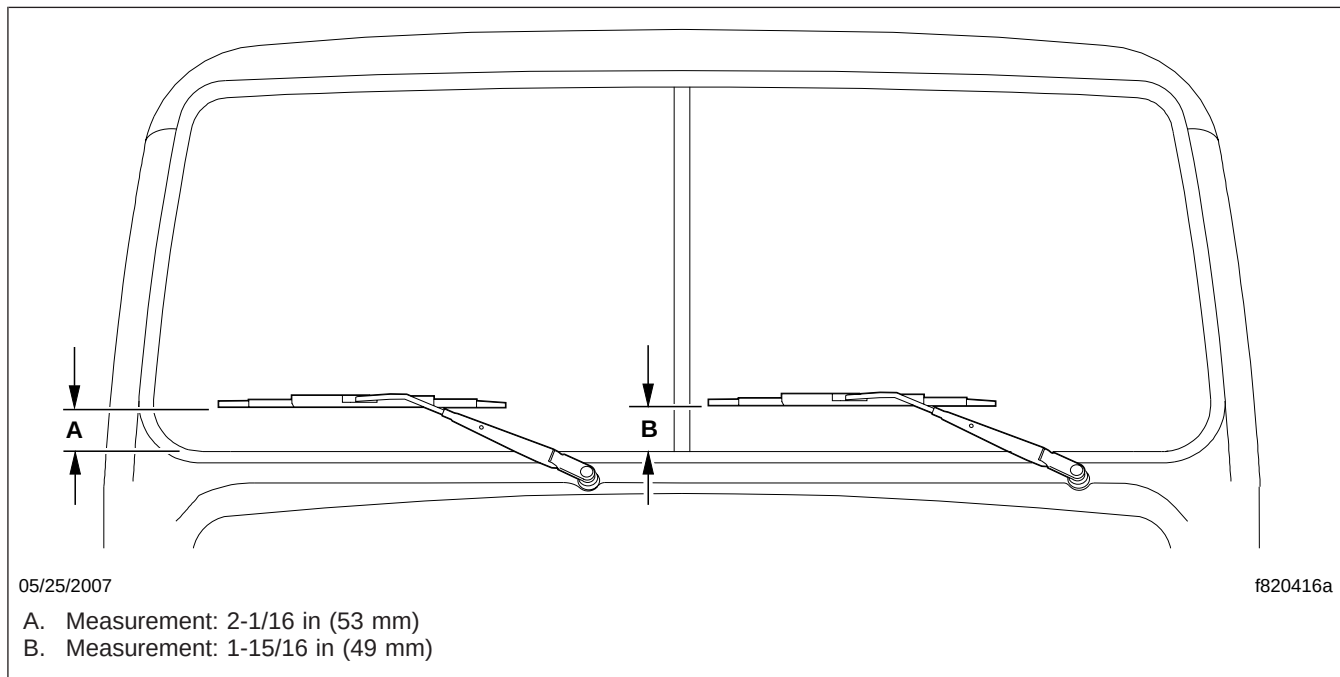

Fig. 3, Windshield Wiper Park Position
12. Test the wiper motor and washers. Operate the wipers at low speed and check that the blades do not slap against the mask around the edge of the windshield, and that the wipers park as shown in Fig. 3. In the parked position, the end of the right-hand wiper blade should be 2-1/16